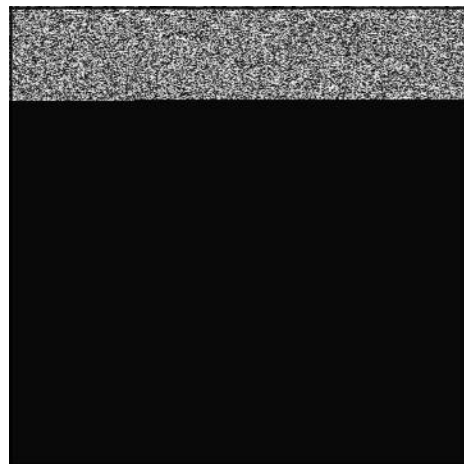

Figure 38
1. Install new hinge pin (E, Figure 38), float (F), and new inlet needle (G).
2. Install new bowl gasket (D) with the fuel bowl (C). Replace the fiber washer (B) and install the fixed main jet (A).